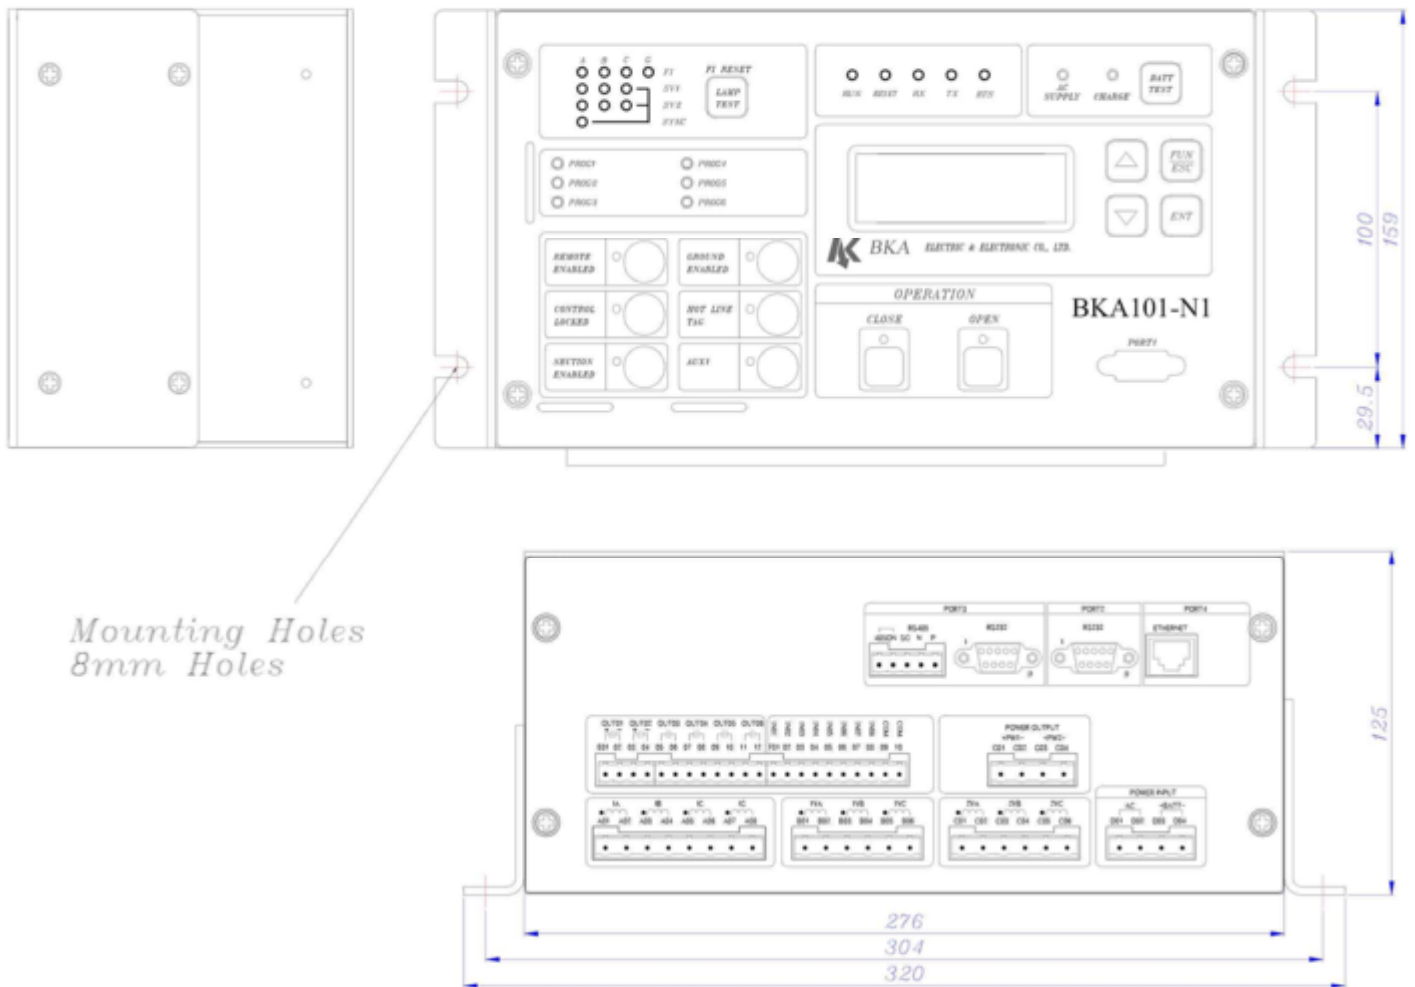

Figure 3-1 Dimensions and Mounting Plan(BKA101-N1 Type)
- **Figure 3-1. Dimensions and Mounting Plan(BKA101-N1 Type)** show BKA101-N1 dimension and fixing points.
- **BKA101-N1** case is able to be fixed under/above a plate by using fixing arms(**Figure 3-1. Dimensions and Mounting Plan(BKA101-N1 Standard Type)**).